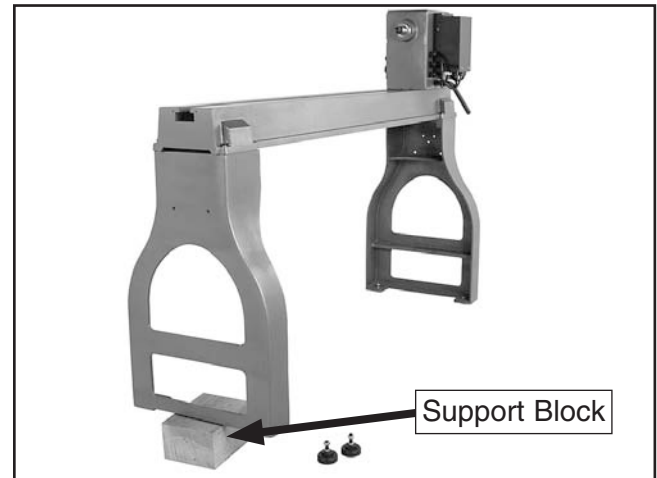

Figure 11. Legs supported for feet installation.
5. Use assistants to lift one end of the lathe onto support blocks and stabilize the lathe in preparation for installing the machine feet (see **Figure 11**).